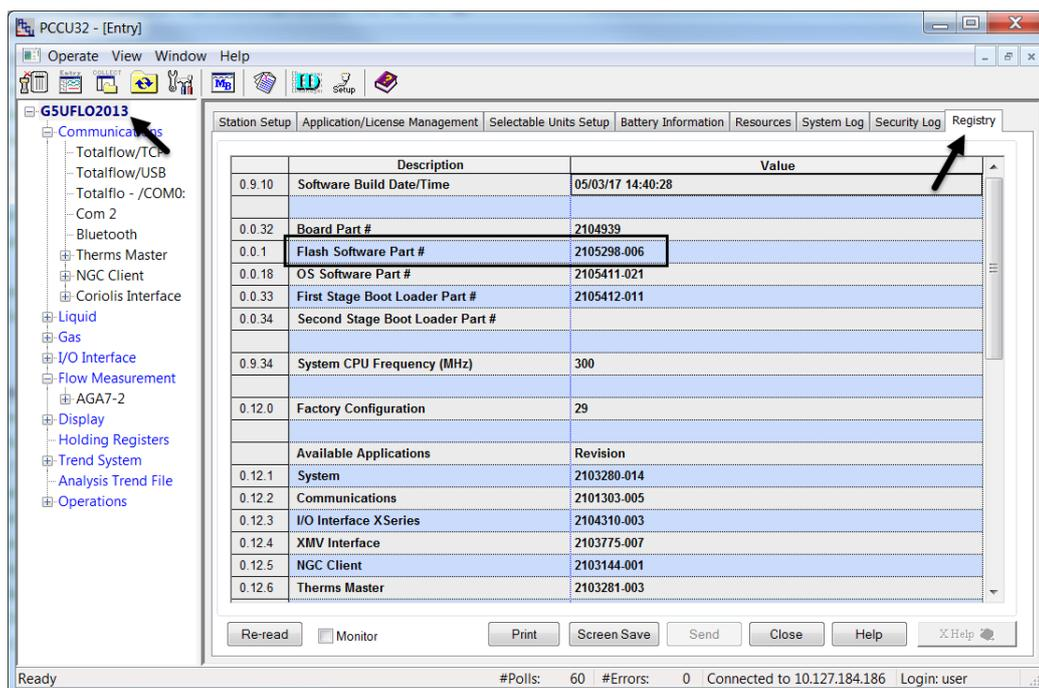

Fig. 2: Verifying the installed Flashed Software part # on the **Registry** tab
2. On the navigation tree select the top node on the tree, or the station name (Fig. 2).